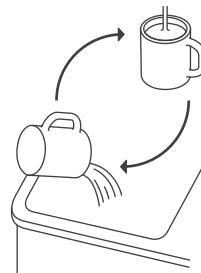

Fig. 6
9. Once the brewing is done, remove the mug and pour the hot water into the sink. Discard the hot water and repeat cleansing by repeating the brewing cycle at least two (2) more times. (Fig. 6)